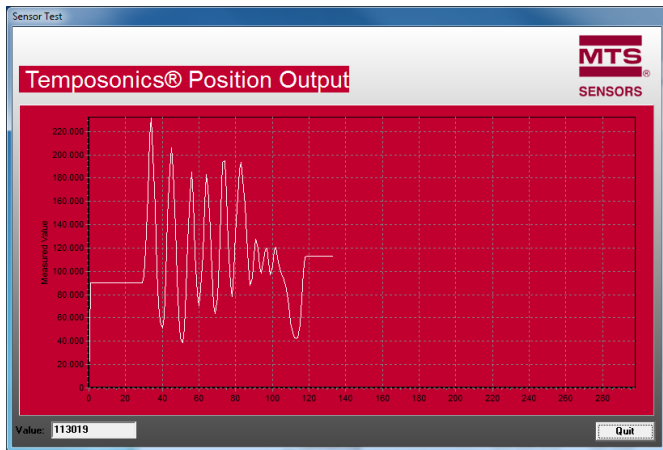

Fig. 37: Data display
- 4 Menu **Test Sensor** provides a data display (Fig. 37), which shows the absolute position of the position magnet. Compared with the sensor measuring rate, the serial data transmission between sensor and PC is relatively slow, i.e. not every measured value can be displayed. For this reason, only every 50th measurement value appears in the diagram.